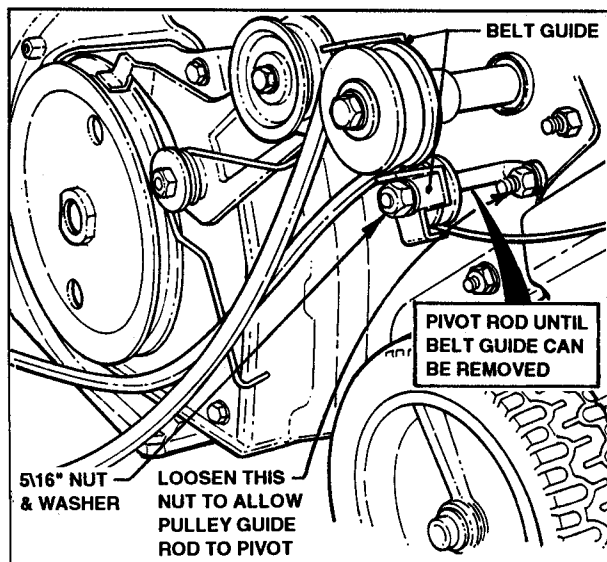

FIGURE 8.3
- (4) Remove 5/16" hex nut and lockwasher retaining the Belt Guide.
- (5) Loosen the 5/16" nut at the base of the Pulley Guide enough to allow it to pivot. See Figure 8.3.
- (1) Remove Belt Guard.
- (2) Check to see if Torsion Idler Spring is loose or broken. If Spring-end is loose, then rehook on rear of housing. (See Pg. 21 Fig. 8.3)